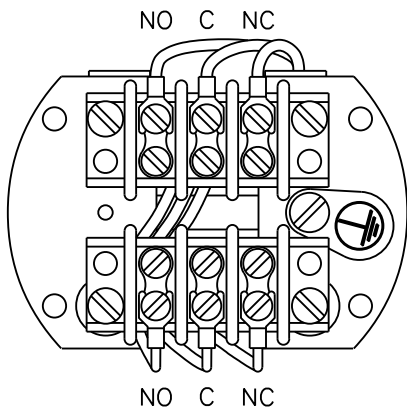

Figure 5
2. Pull in supply wires and connect to the proper terminals, **Figure 5, 6, 7 & 8**. Please note that some switches are reverse acting. Be sure to connect to proper terminals according to wiring diagrams.
5. If the switch mechanism does not move freely, use an electrical continuity checker to determine if the switch is electrically functional. Refer to **Figures 5, 6, 7 & 8** on page 6 for the appropriate wiring diagram. If the switch operates properly when moved mechanically but not when electrically activated, the switch must be replaced.